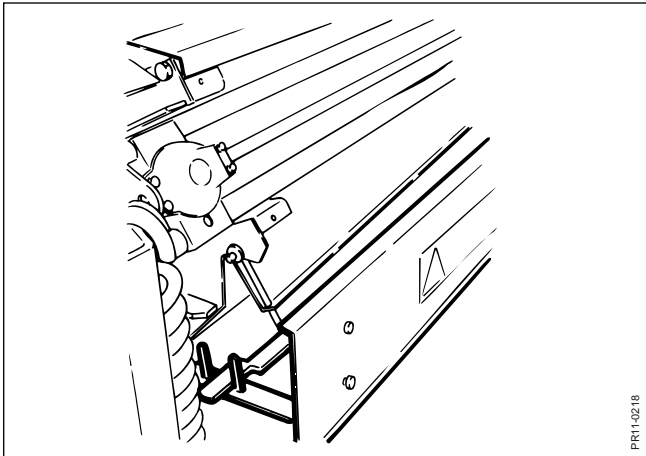

Fig. 4.12
- Fig. 4.12** 1. Lower the guard behind the grinding device.